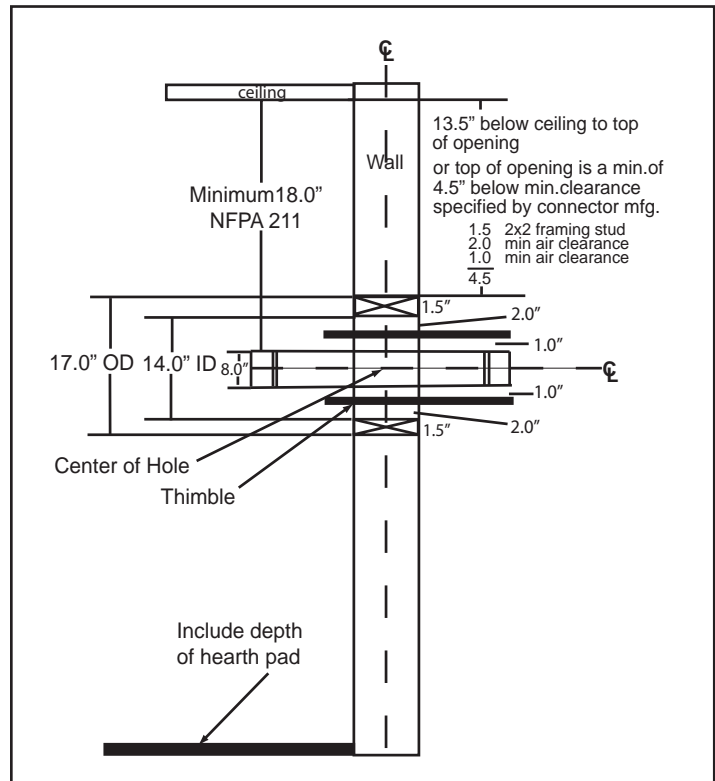

Figure 12.1
- Top of wall opening is a minimum of 13-1/2 inches (343mm) from ceiling or 4-1/2 inches (114mm) below minimum clearance specified by chimney connector manufacturer. NFPA 211 minimum vertical clearance of 18 inches (457mm) from chimney connector and ceiling or minimum recommended by chimney connector manufacturer. **Figure 12.1**
1. Open inside wall at proper height for the chimney connector to entry the masonry chimney. **Figure 12.1**
3. Construct a 17 inch x 17 inch (432mm x 432mm) outside dimension frame from 2 x 2 framing lumber to fit into wall opening. Inside opening of frame should be no less than 14 inch x 14 inch (356mm x 356mm). **Figure 12.1**